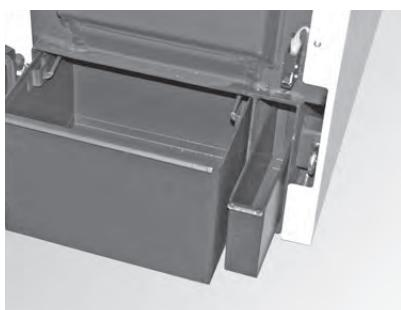

Fig. 153 Removing the ash pan(s) or removing the ash
- Empty the ash pan for the heating surfaces (accessory) or remove the ash from the duct – Fig. 153.